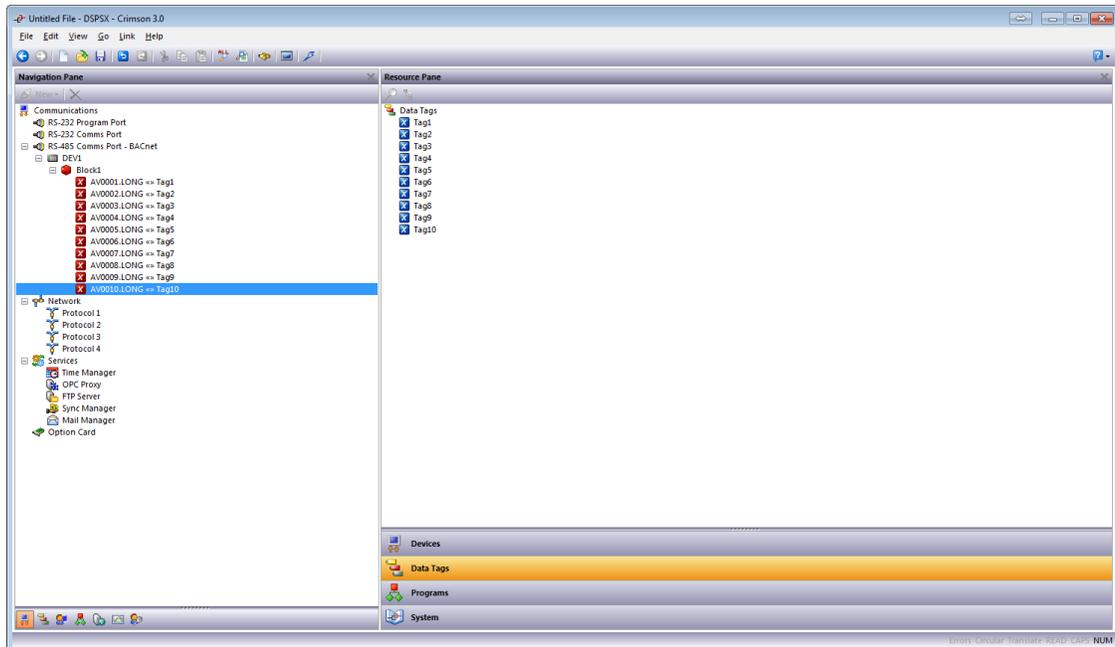

Figure 6.
15. Referring to Figure 6, click on *Data Tags* in the Resource Pane.